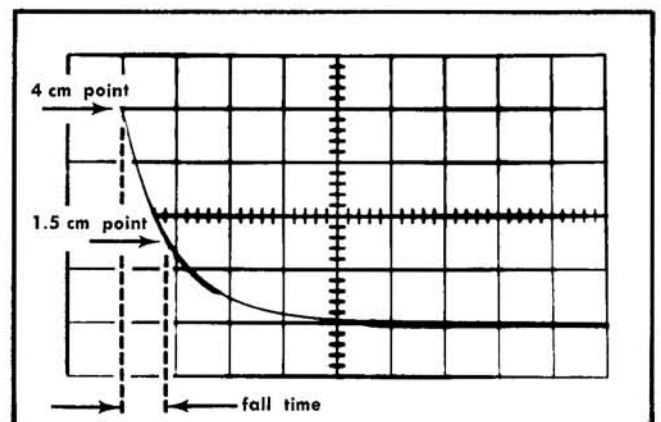

Fig. 6-8. Measuring AC coupled low-frequency response using an RC curve.
e. Turn the test oscilloscope Intensity control counterclockwise to reduce the intensity to normal brilliance to avoid burning the CRT. The display obtained should be a falling RC curve as shown in Fig. 6-8.
4 cm to 1.5 cm (see Fig. 6-8). It should be more time than 0.008 sec (less than 2 hertz).